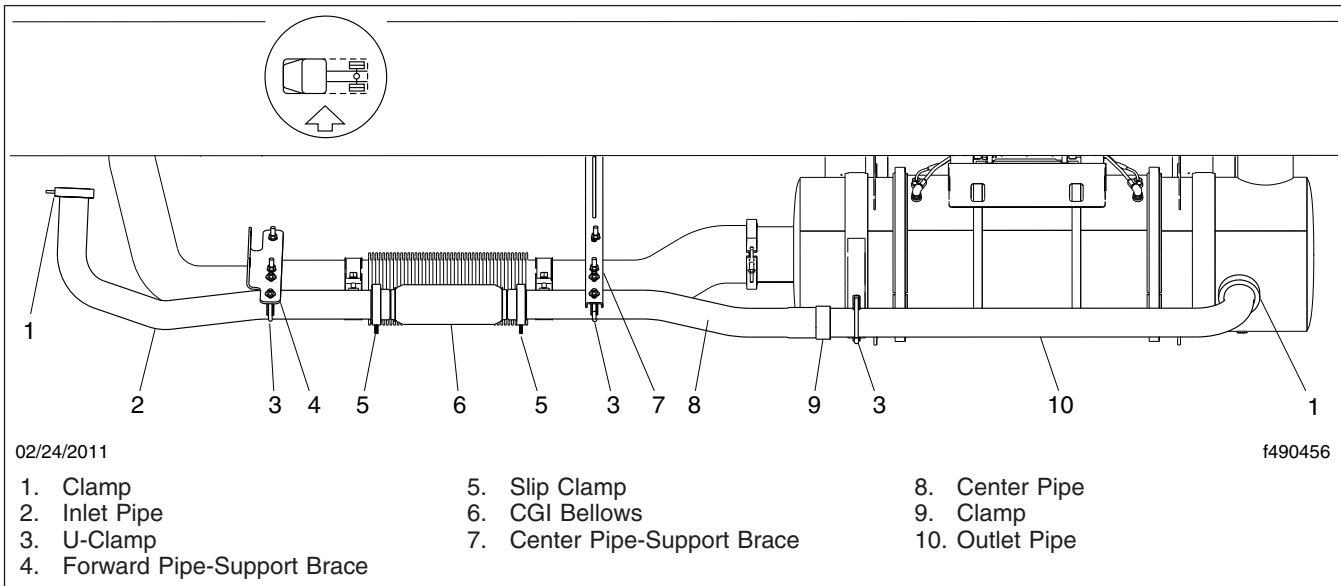

Fig. 8, CAT EPA07 Exhaust Installation with CGI Bellows
3. On vehicles with CAT engines, inspect the CGI bellows and piping for evidence of damage or leakage. See **Fig. 8**. If the bellows is damaged or leaking, replace it. See **49-02** for the replacement procedure.